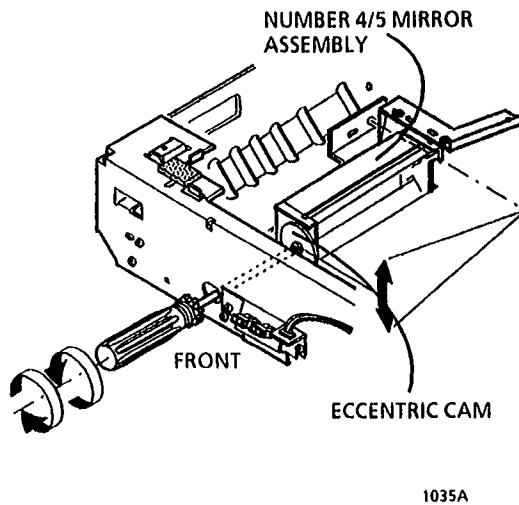

Figure 1. Adjusting the Optical Skew
4. (Figure 1): Rotate the eccentric cam $1/8$ to $1/4$ turn in either direction.